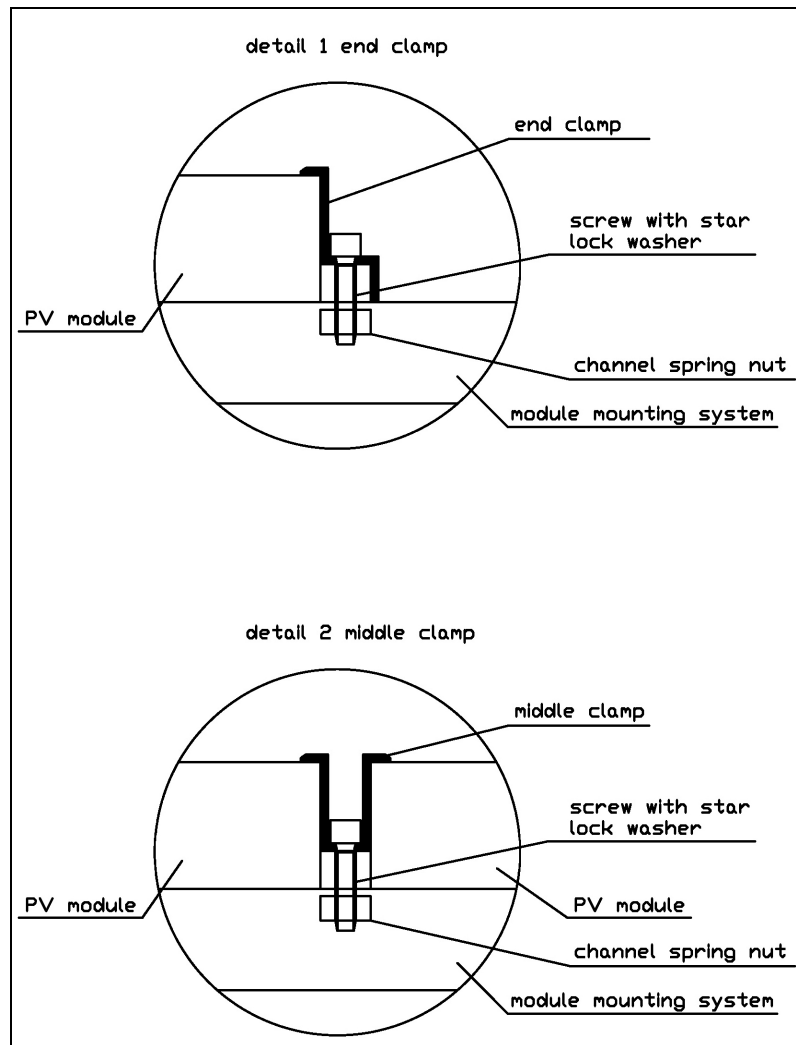

Figure 6A: Illustration of Middle and End Clamps
- 1) Select clamps designed for a module with frame height of 50mm. Examples include Schletter end clamp model numbers 130001-050 or 130001-950 and middle clamp model numbers 130002-001 and 130002-901. A minimum of 4 should be used. Refer to Figure 6A for more information.